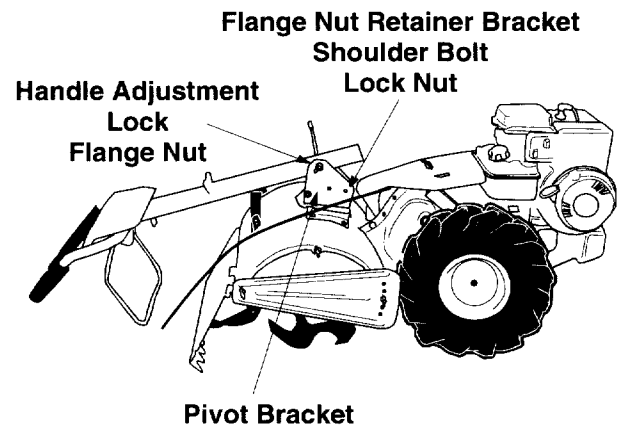

Figure 4
2. Place the handle assembly in position in the handle pivot bracket lining the upper holes in the handle with the slots in the pivot bracket. See Figure 4.